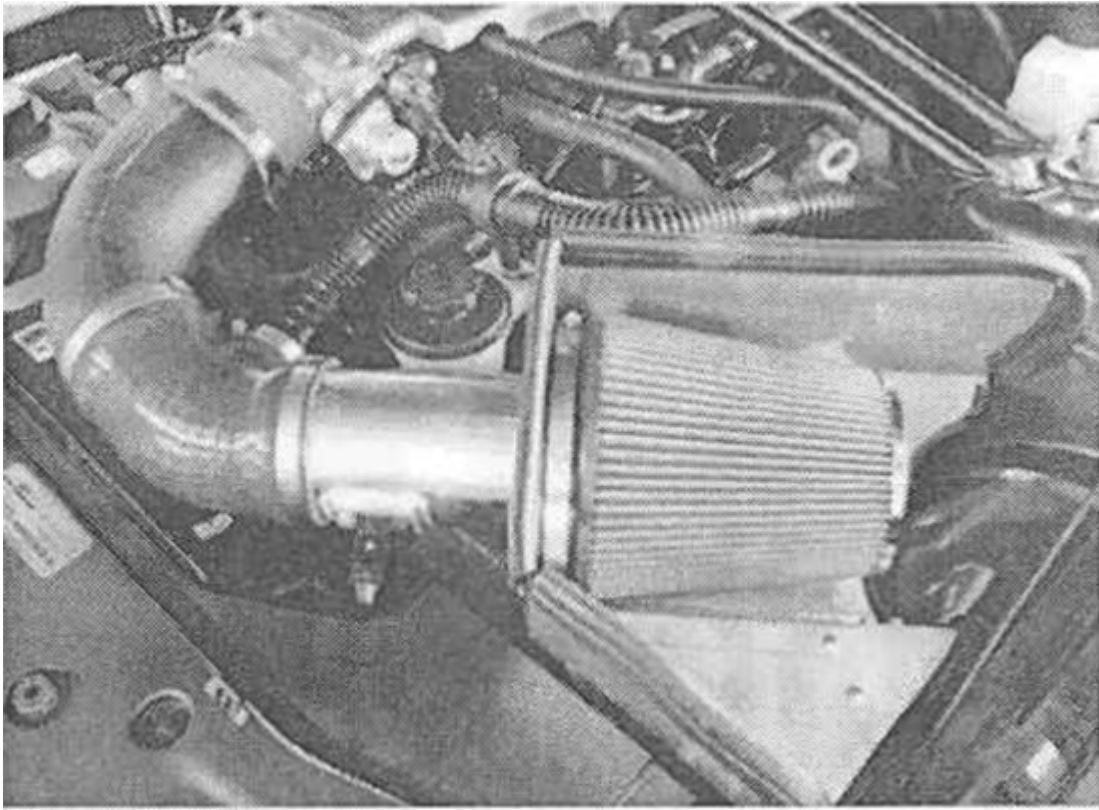

Figure 13
7. You are done with the installation! The finished assembly should look similar to Figure 13.